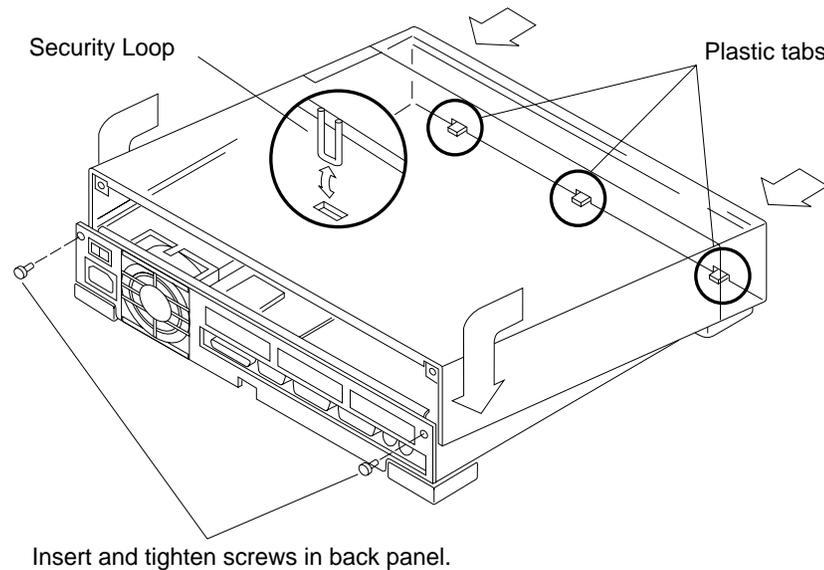

Figure 3-5 Replacing the Cover on the System Unit
8. Hold the cover at an angle of approximately 30 degrees in relation to the system unit chassis (front end down, back end up). Gently guide the plastic tabs on the front of the cover into the tab slots on the front of the chassis (see Figure 3-5). Continue to hold the cover with your hands.